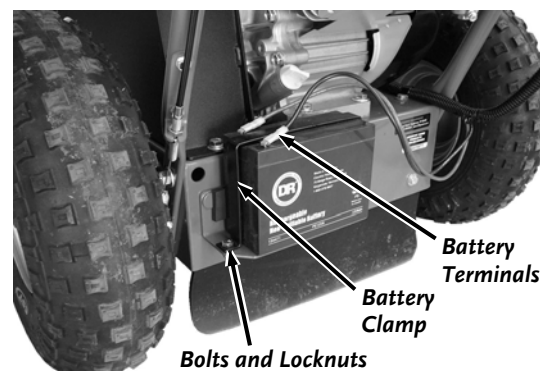

Figure 29
1. Disconnect the Battery Terminals (**Figure 29**).